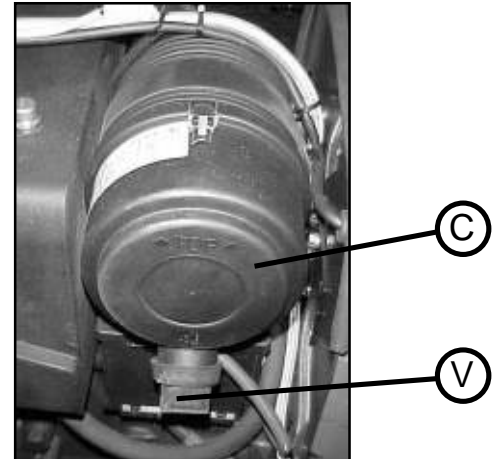

Fig.38
Daily, tap slightly on the cap C of the air filter (Fig. 38) to remove the dust that is inside. Press the draining valve V to remove the dust that is inside. Clean the draining valve.
Every 150 h of work, you should clean the main cartridge F. Remove the cover C and take out the external element F (Fig. 38). Clean it carefully with air under pressure. Change the filter element F after 3 or 4 cleanings. **NOTE: When working in very dusty places, reduce these operations to the half.**
Safety filter cartridge S (Fig. 38)
- 2.- Take out the cartridge F and S (Fig. 38)